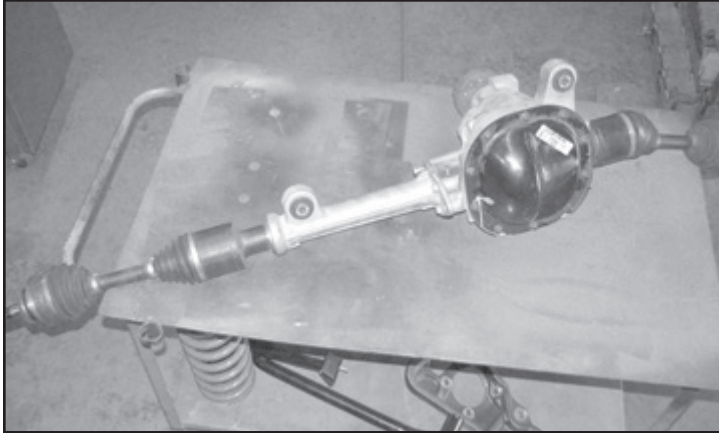

FIGURE 9 - STEP 16
16. Remove the driver side rear differential mount hardware and discard. While supporting the differential, remove the two upper differential mount bolts and remove the differential and axles from the vehicle. **SEE FIGURE 9**